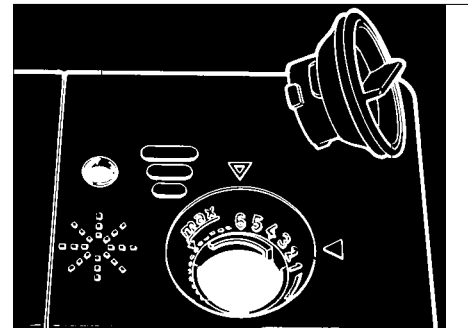

fig. 5
- Open the rinsing agent reservoir (see fig. 5) on the inside of the door, next to the detergent reservoir. The means of operation will depend on the type of dishwasher: the containers all work on the basis of the same principle.